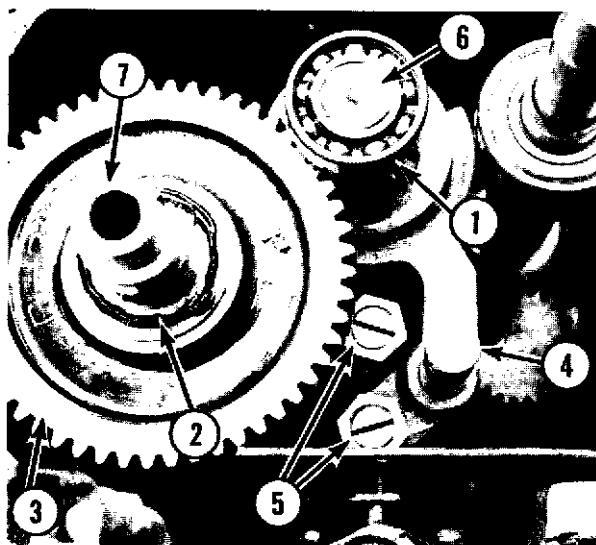

Fig. 11-6
- P. Remove the bearing from the clutch shaft (1, Fig. 11-6).
- Q. Lift off the spacer (2, Fig. 11-6), upper planetary gear (3, Fig. 11-6) and key.
- R. Insert a punch through the hole in the shifter shaft (4, Fig. 11-6) and pull the shaft up to remove it.
- S. Remove the shifters (5, Fig. 11-6).
- T. Remove the clutch shaft assembly (6, Fig. 11-6) and main shaft assembly (7, Fig. 11-6) at the same time.